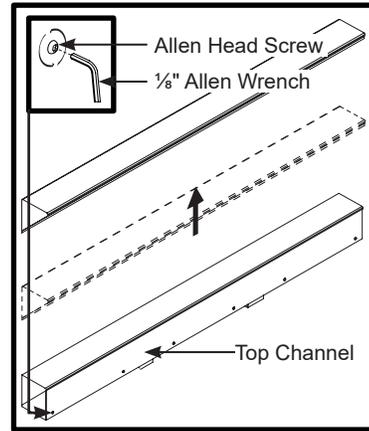

Fig. 13
1. Remove the cover from the Top Channel using a 1/8" Allen wrench (Figure 13).